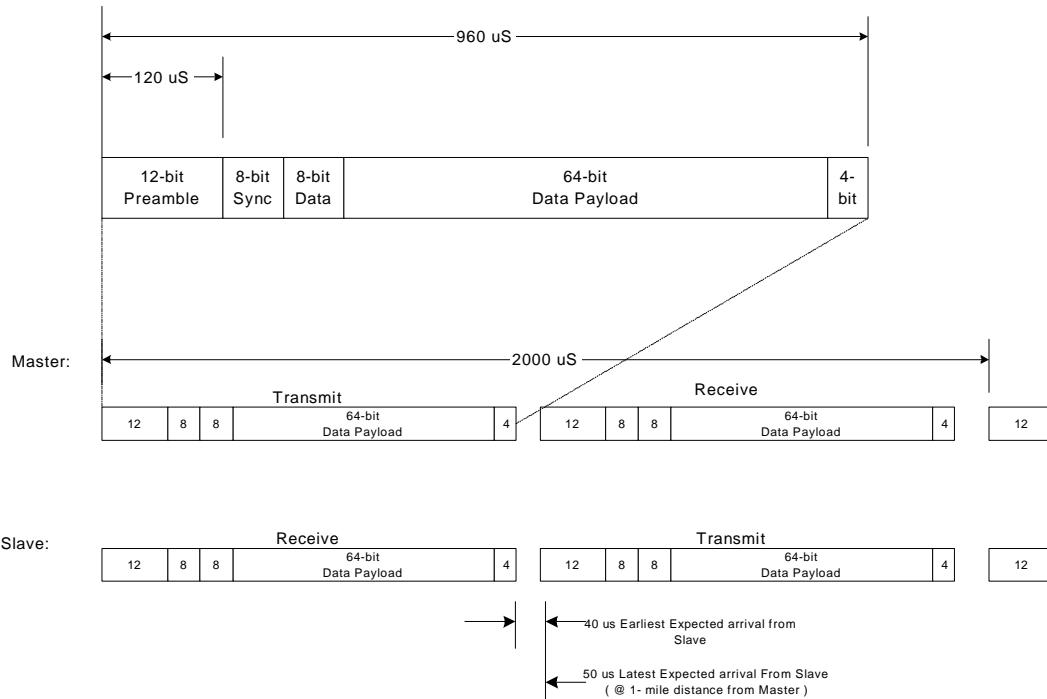

Figure 3 Data Frame Format
Actual data is transferred 8-bytes at a time at a 32k bits-per-second (bps) data rate. The receiver continues scanning the channel list until a master is detected. The transmitters spread the data using a Pseudorandom Numerical (PN) sequence with a chipping rate of 1.5Megachips per second. When the receiver locks to the PN sequence it can read the control channel and determine if the sampled data can be sent. The master only occupies any single channel for a predetermined number of milliseconds before switching to a new frequency. Data is transferred in a Time Division Duplex (TDD) format only transmitting 50% in any given frame. The frame consists of two data packets: a 12-bit preamble, an 8-bit sync byte, and an 8-bit control byte. The packet also includes a 4-bit CRC post amble. A data diagram is shown in Figure 3. Once in sync, the slave begins to transmit, the master locks to the slaves PN sequence, and master and slave alternately transmit for approximately 1 millisecond in the 2 milliseconds long frame. A total of 96 bits are transmitted and transferred in each packet.